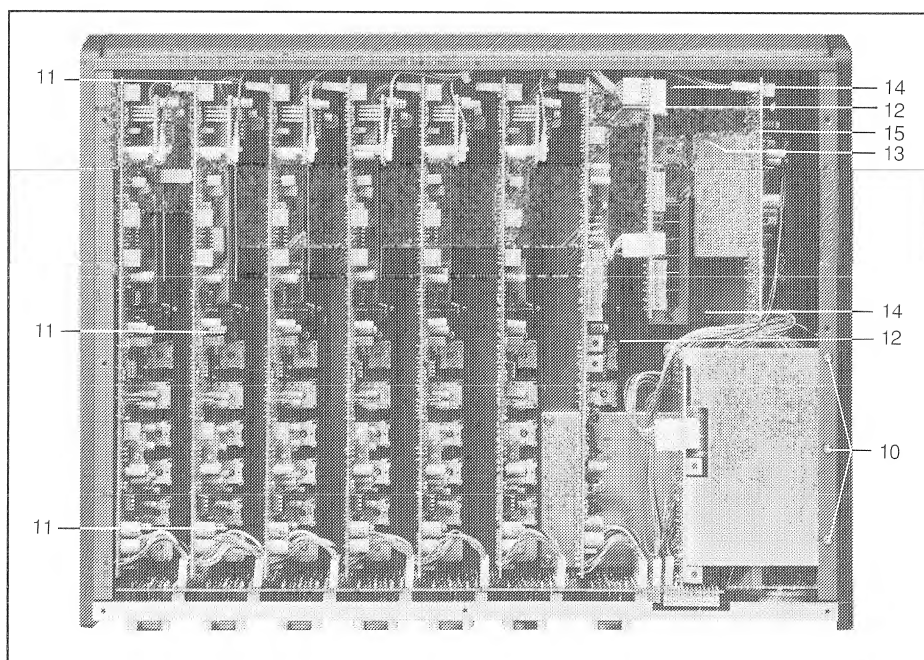
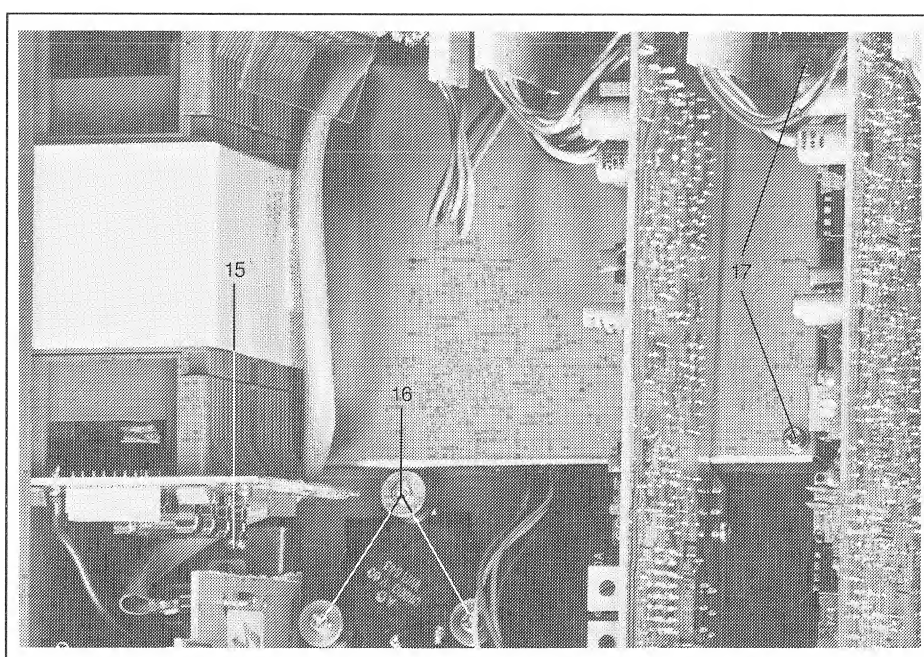

Fig. 5
Fig. 6
- Unfasten 3 screws [10], Fig. 5
- Unfasten 3 screws [11], Fig. 5.
- Unfasten 2 screws [12], Fig. 5.
- Unfasten 1 screw [13], Fig. 5.
- Unfasten 2 screws [14], Fig. 5.
- Unfasten 2 screws [15], Fig. 5, and [15], Fig. 6.
- ☐ Unfasten 2 screws [17], (fig. 6). The screening plate and the display module can now be removed.